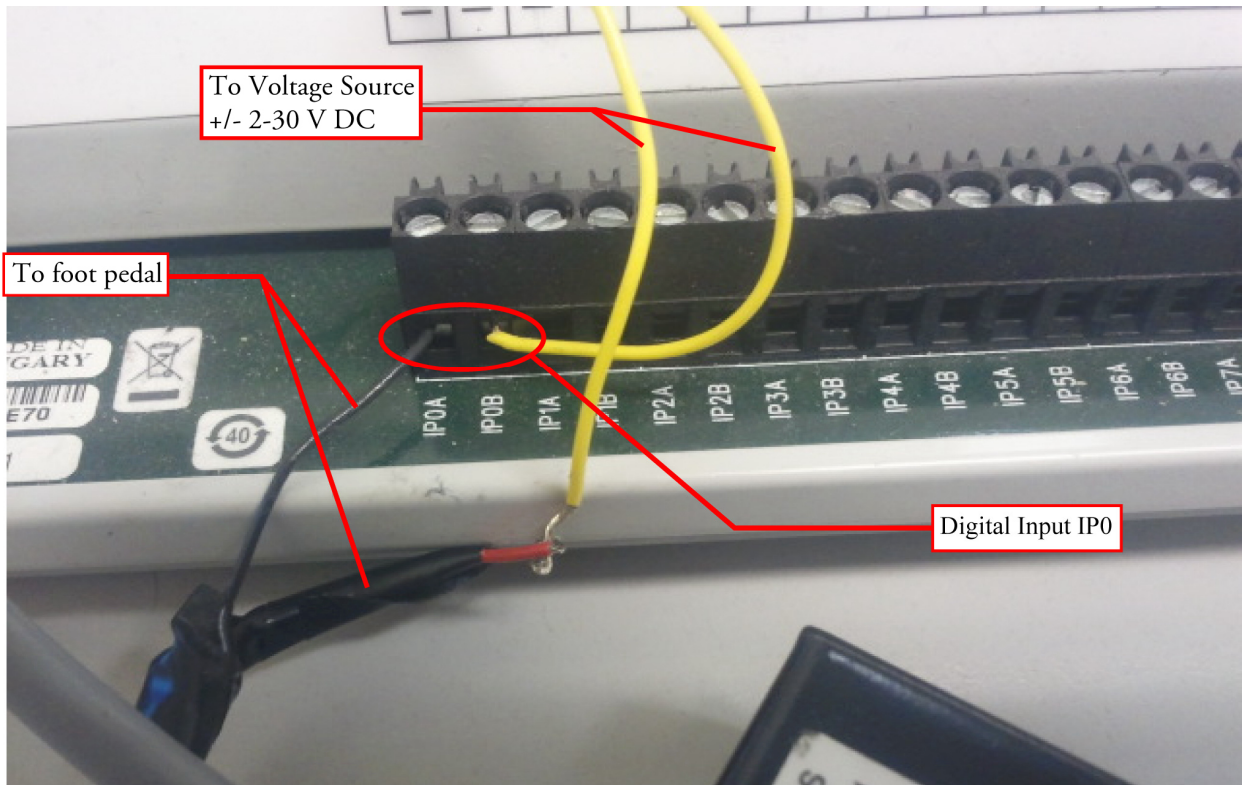

Figure 14. PDIS08 Showing use of Power Out and Foot Pedal.
- 1.1 Connect your two wires directly to the signal output of the device. (Figure 14)